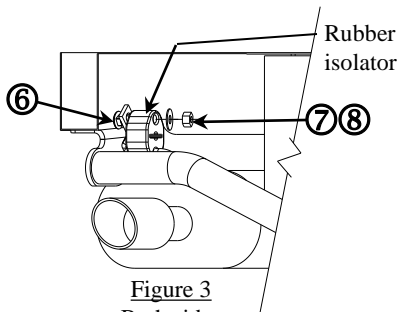

Figure 3
1. Lower exhaust system at the rubber isolator (3 places). Note: Spraying a lubricant or soapy water on the metal hanger rod and the rubber isolator helps removal. Remove rubber isolator from mufflers only (2) to be re-install step 3. **Be careful not to allow muffler to fall under its own weight.**
3. Install carriage bolts (item 6) into exhaust hangers on hitch. Install rubber isolators removed in step 1, onto 7/16 carriage bolts on hitch. Install flat washer, and 7/16-14 hex lock nut. See Figure 3.